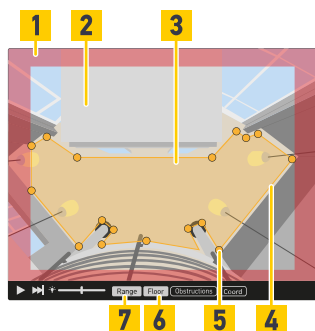
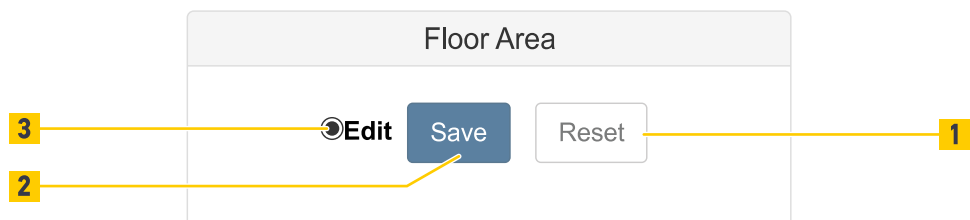

Fig. 83: Live view with range and floor area
Fig. 84: Floor Area
- To define the floor area (Fig. 83 /3) in the live view activate the Edit button (Fig. 84 /3).
- To see the unusable area (Fig. 83 /1) and usable area (Fig. 83 /2) click the Range button (Fig. 83 /7). The usable area is the range where people can be tracked and counted.
- To see the floor area (Fig. 83 /3) defined by the yellow floor area polygon line (Fig. 83 /4) click the Floor button (Fig. 83 /6).
- Define the floor area by moving/adding/deleting points (Fig. 83 /5). The floor area is defined by a minimum of 3 points and a maximum of 20 points.
- To go back to the last saved settings click the Reset button (Fig. 84 /1).
- To save all the settings in the device click the Save button (Fig. 84 /2).